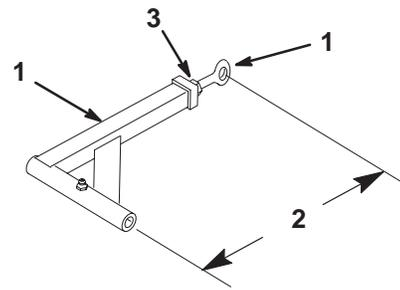

Figure 62
11. If the fixed idler contacts the end of the adjustment slot and more belt tension is required, a small change to lengthen the push arms can be made (Fig. 62).
12. To adjust the push arms, loosen the jam nut and rotate the ball joint counterclockwise, one turn at a time. Adjust each side the same amount (Fig. 62).